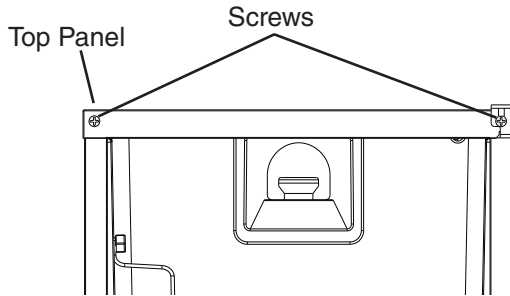

Fig. 11
a) Contact Hoshizaki Technical Support at 1-800-233-1940 to obtain Hoshizaki Kit HS-0229. The kit contains "hinge (A)-left."
b) Remove the 2 screws securing the top panel, then lift it off. See Fig. 11.